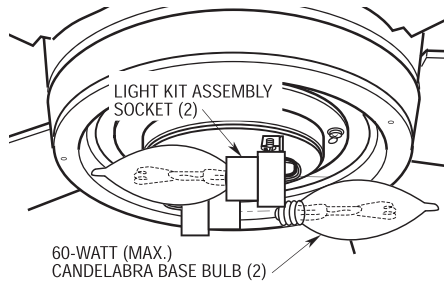

Figure 16
- 7. Screw in two 60-watt (supplied) (maximum) candelabra base bulbs in the light kit assembly sockets (Figure 16).